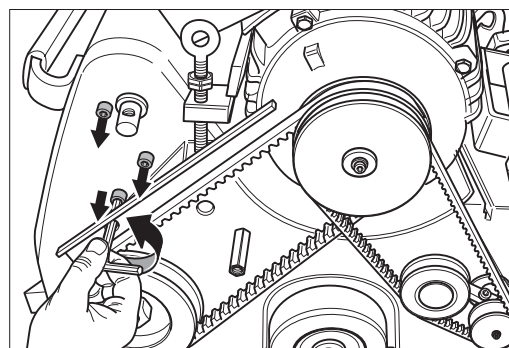

Fig. 29 Release and remove the three hexagonal socket head screws.
- 8 Release and remove the three hexagonal socket head screws (Fig. 29).